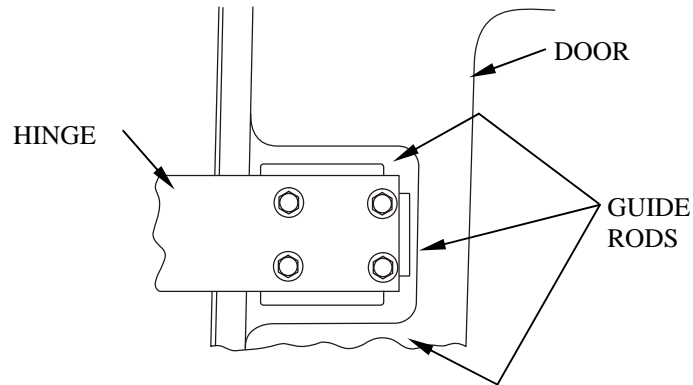

Figure 13 Door Hinge Bolts
- Support each door in turn and remove the hinge-to-door retaining bolts, illustrated in Figure 13 then lift the door from the cab.